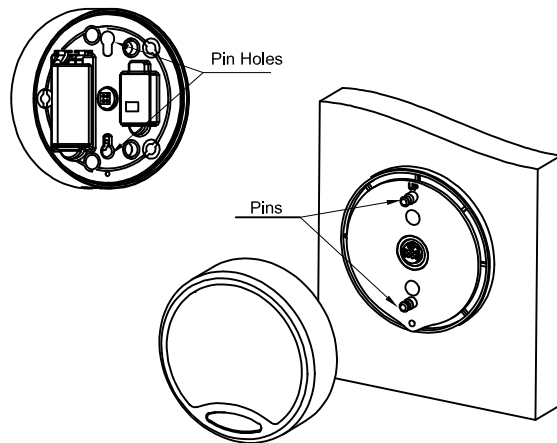

Fig. 12
1. Install the battery with the correct orientation as indicated by the "+" and "-". (Fig. 12)